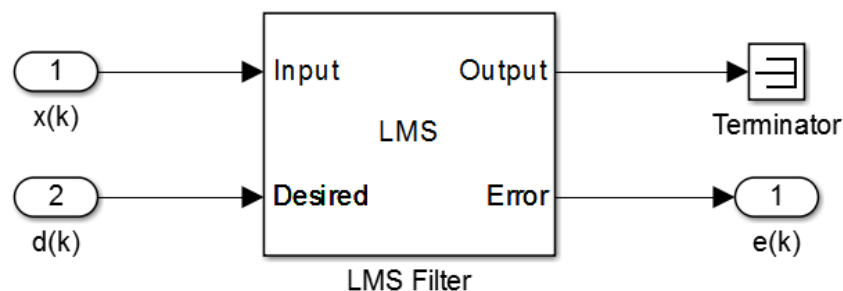

Figure 4.21: LMS subsystem
- (e) Drill down into the LMS subsystem block by double-clicking on it. You will see the system in Figure 4.21.